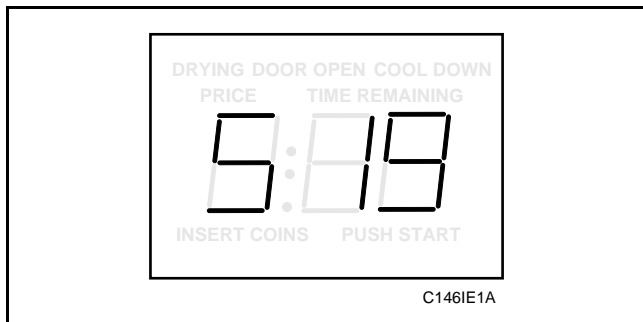

Figure 11
- While pressing and holding the HIGH TEMP pad with one hand, press the MED TEMP pad with the other hand. Programmable option number 1, (Audio Signal “SIg”), will appear in the VFD, *Figure 11*.